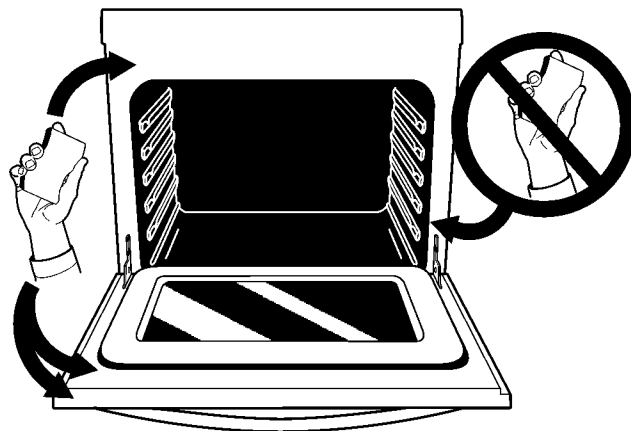

Figure 45: Oven door area to clean and not clean (gasket)
- Do not clean the oven door gasket (Figure 45). The woven material of the oven door gasket is essential for a good seal. Care should be taken not to rub, damage, or remove the gasket. Do not use any cleaning materials on the oven door gasket. Doing so could cause damage to the door gasket.
- Clean any soil from the oven frame, the door liner outside the oven door gasket and the small area at the front center of the oven bottom (Figure 45). These areas heat sufficiently to burn soil on. Clean using soap and water prior to starting self clean.